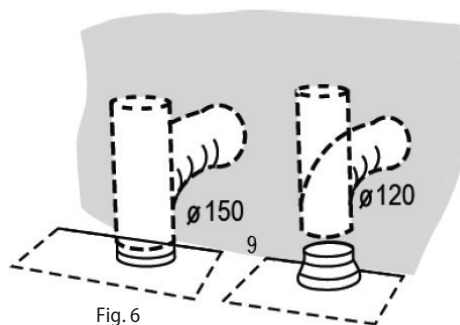

Fig. 6
6. After the hood has been hung, install the flexible outlet duct to the outlet opening (Fig. 6). Use a reducer fitting 150/120 mm in diameter, if required. Insert the second part of the flexible duct in the opening prepared in the wall.